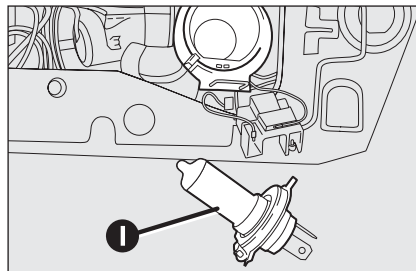

fig. 26
- remove the burnt bulb **I-fig. 26** and fit the new bulb;